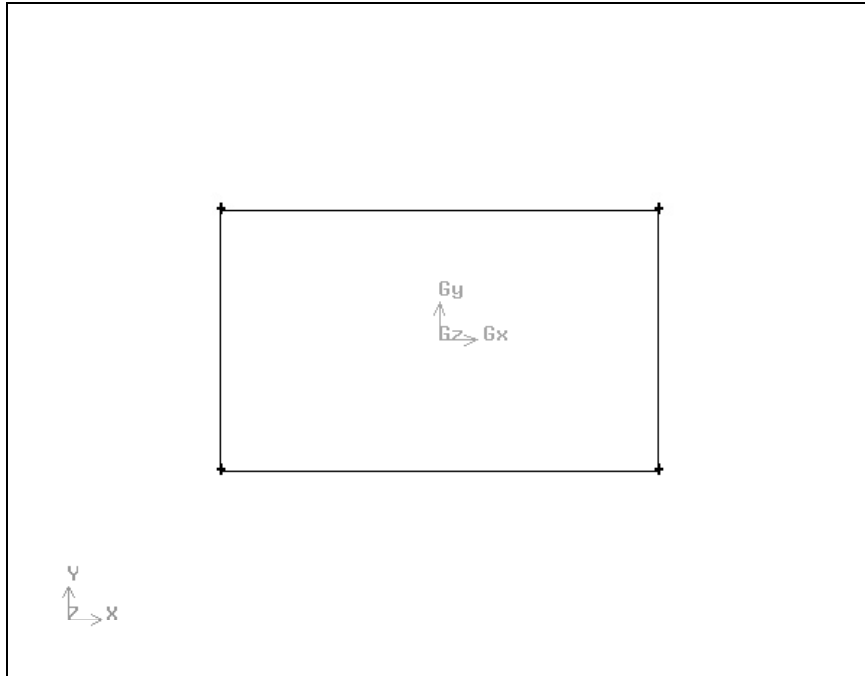

Figure 1-3: Rectangular brick volume (side view)
*A message appears in the **Transcript** window at the bottom left of the GAMBIT GUI to indicate that a volume, called volume.1, was created. The volume will be visible in the graphics window, as shown in Figure 1-3.*